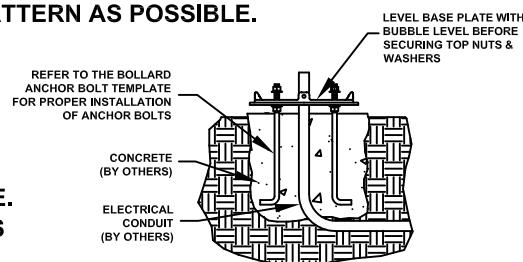

FIG. 1
2. MOUNT BASE PLATE ON ANCHOR BOLTS. SEE FIG. 1 & ANCHOR BOLT MOUNTING TEMPLATE. ELECTRICAL CONDUIT SHOULD COME UP AS NEAR TO THE CENTER OF BOLT PATTERN AS POSSIBLE.